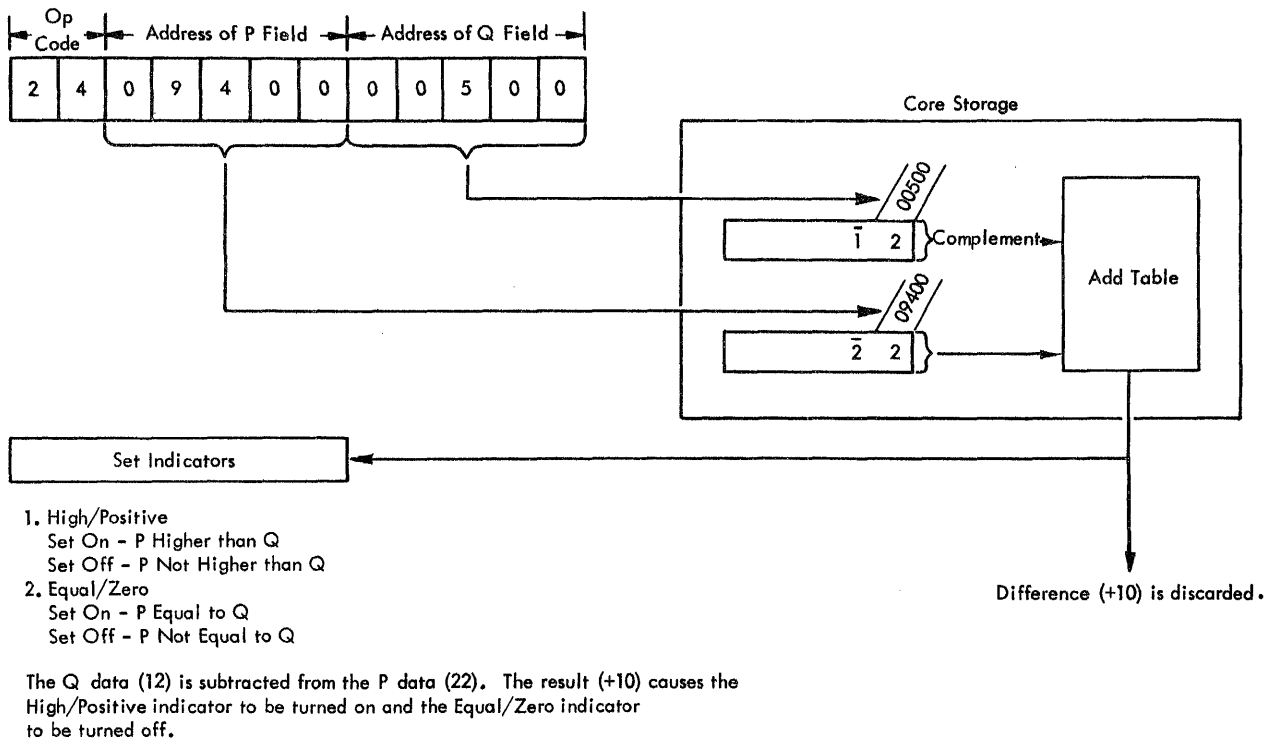

Figure 35. Compare Instructions - Data Flow
In Figure 35 the Q address data (12) is subtracted (complement-added) from the P address data (22). The difference (+10) is discarded and the indicators are set as follows: